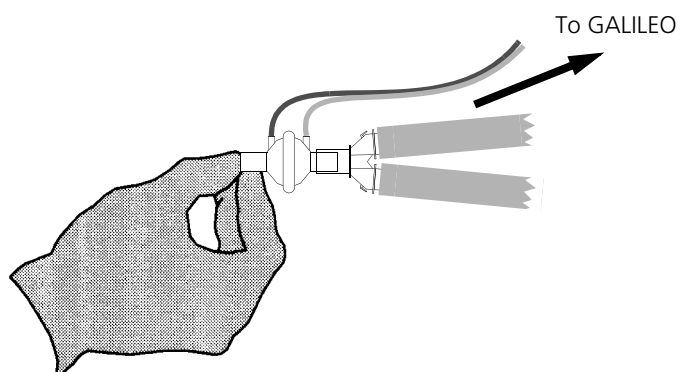

Figure 9-37. Sealing the Flow Sensor
1. Seal the open end of the Flow Sensor with a finger or thumb, so that the patient breathing circuit is completely enclosed. (Figure 9-37.)